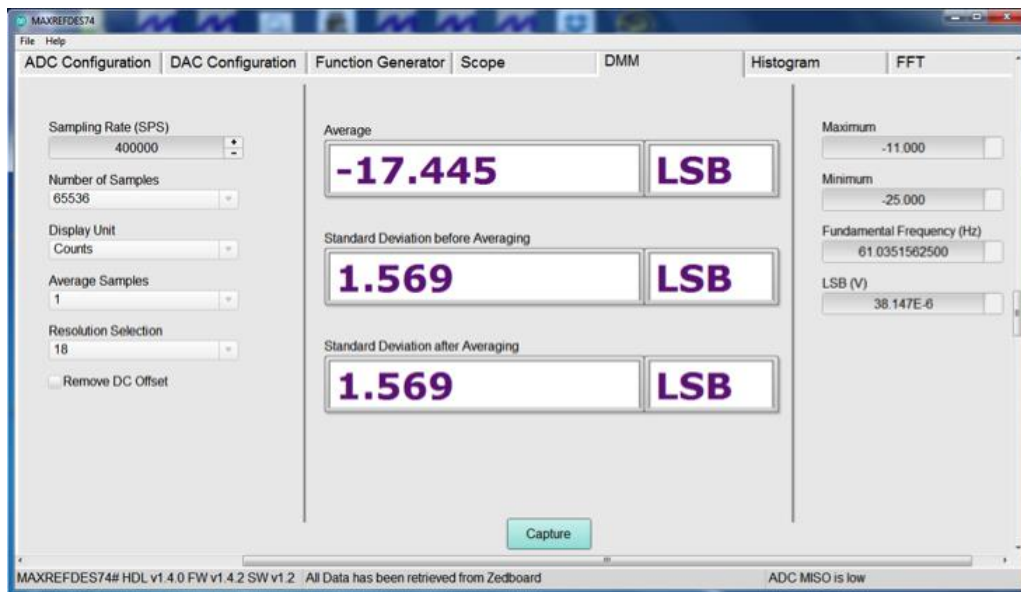
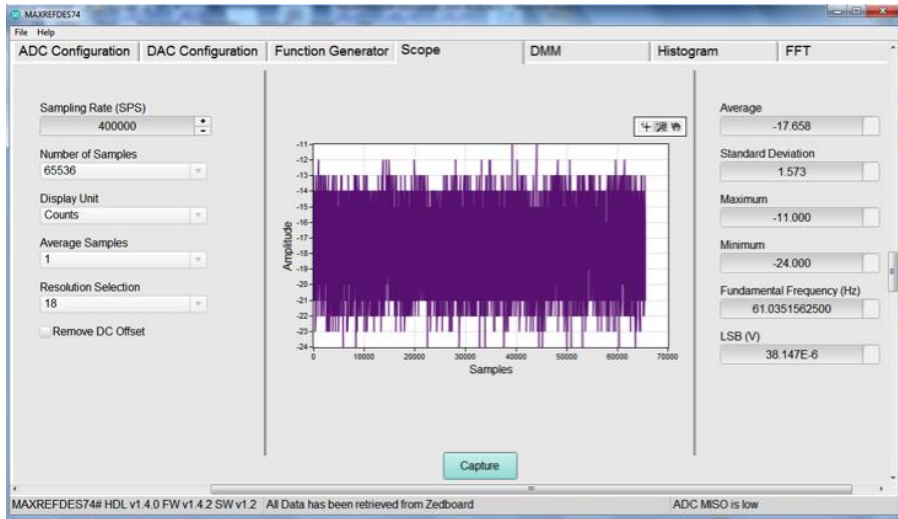
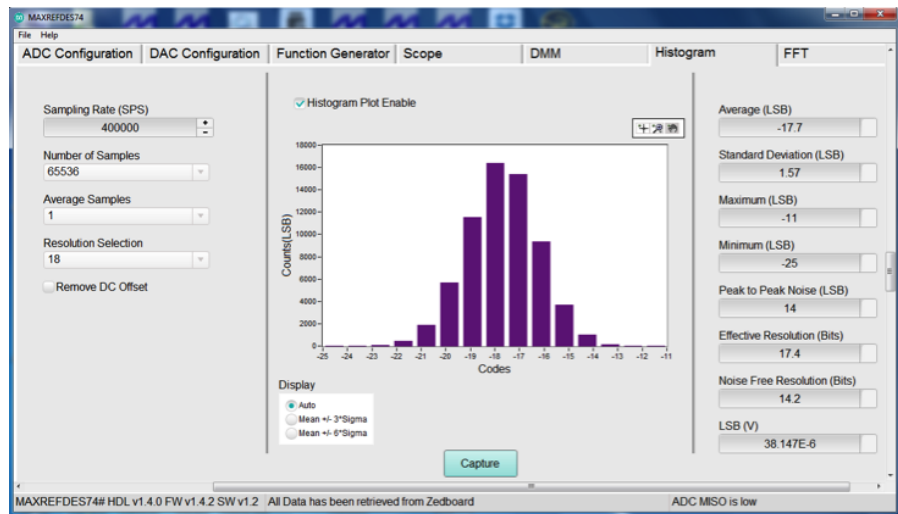
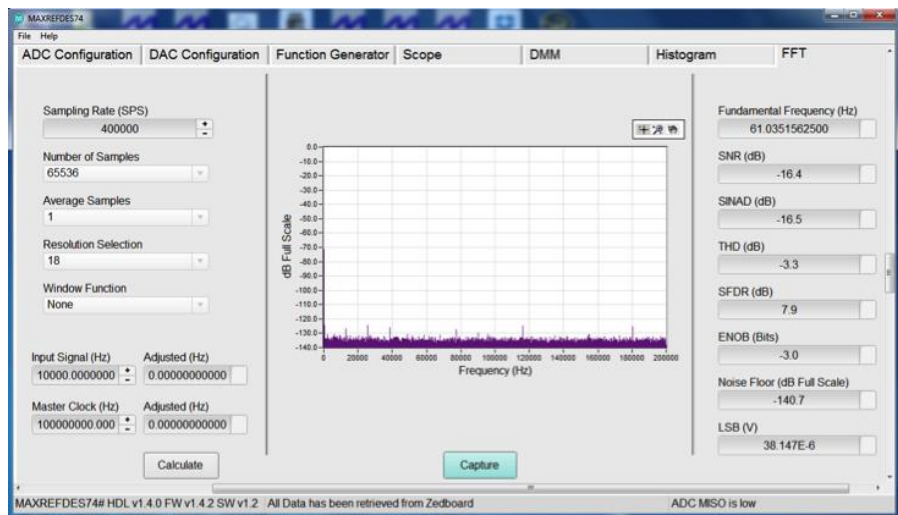

Figure 4. DMM tab.
Figure 5. Scope tab.
Figure 6. Histogram tab.
Figure 7. FFT tab.
15. Go to the Scope, Histogram, and FFT tabs to verify functionality and performance of the 0V reading. Set the Sampling rate and select the Number of Samples, the Display Units, and the Average from the corresponding pulldown menu and perform a read operation by clicking the Capture button. The corresponding print screens are shown in **Figure 4**, **Figure 5**, **Figure 6**, and **Figure 7**.